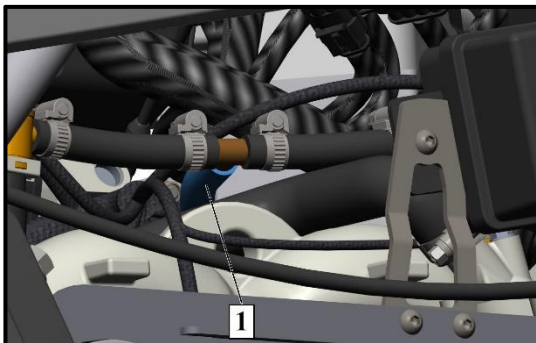

Fig. 14
6.Remove the fuel hose (Position 1, Fig. 14) from the T-shaped fuel pipe fitting. Cover the hose with a safe hose clamp or close the hose opening with a hose plug.